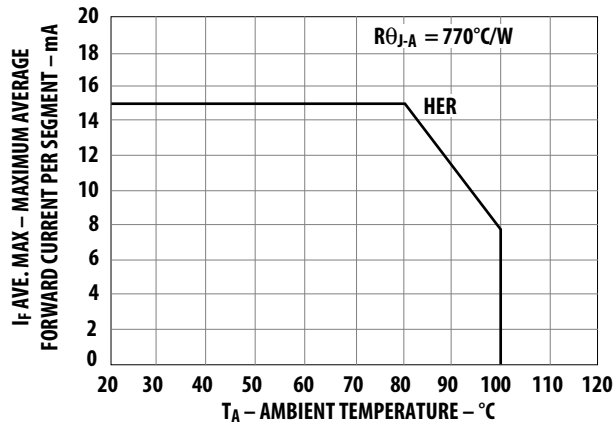

Figure 10. Maximum allowable average or DC current vs. ambient temperature.
5. See Figure 10 to establish pulsed conditions.